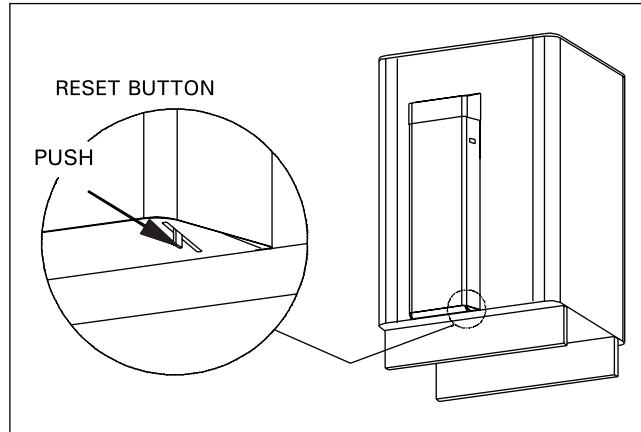

Figure 2. Resetting the overheating limiter
**The overheating limiter can be reset to the position which allows currents to flow through the thermostat only after the heater has cooled.** The thermostat has a reset button to reset the overheating limiter. **To reset the overheating limiter, the reset button is pressed hard enough so that you can hear a click. The pressing may require a force corresponding to 7 kilograms.** See figure 2.